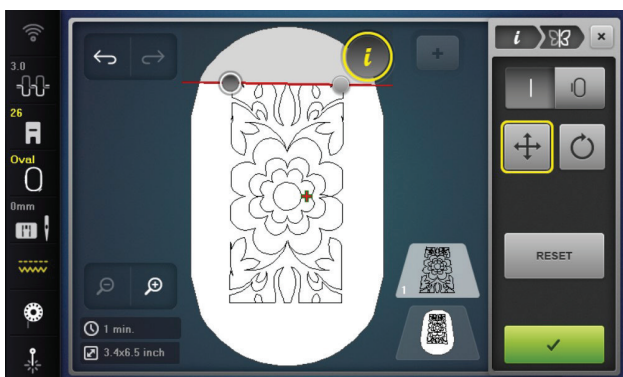

Fig. 39
14. In the Quilting Menu, select Connect. Select Jump Stitch and confirm. The three rows will now sew sequentially, with securing at each start and stop, and be connected by a jump stitch between securing indicated on screen by a dotted line (Fig. 39).